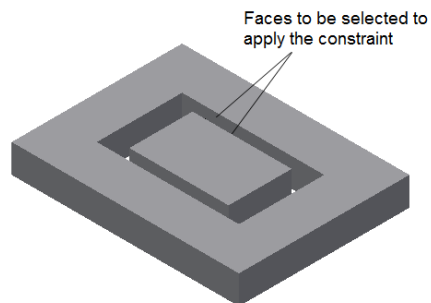

Figure 18-39 Faces selected to apply the **Mate** constraint
11. Similarly, apply the **Mate** constraint with an offset value of 10 mm between the selected faces, as shown in Figure 18-39.